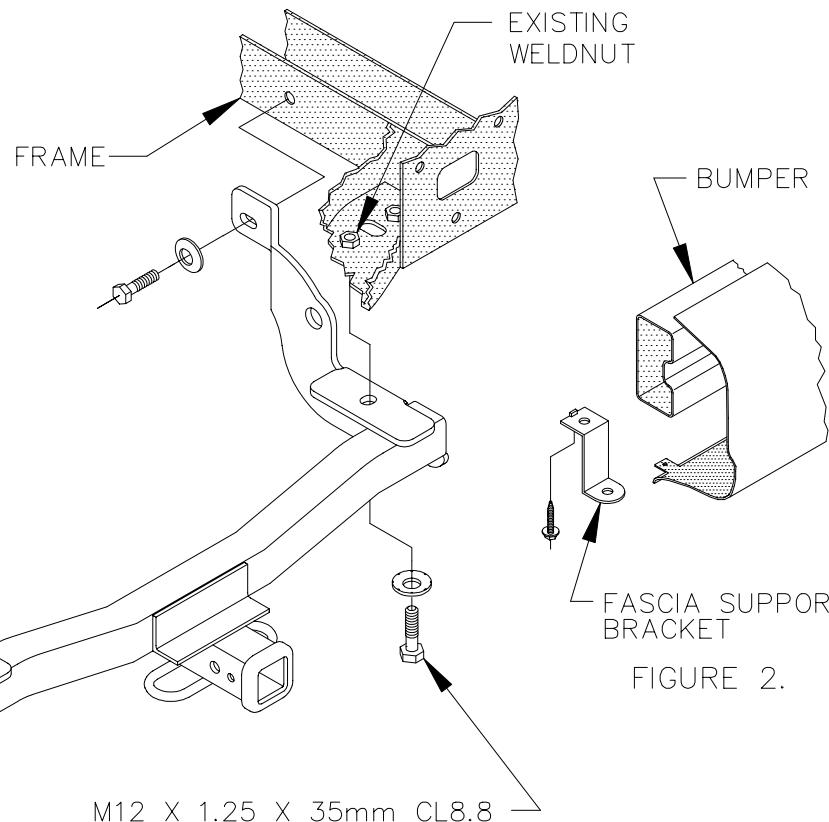

FIGURE 2.
1. REMOVE THE (2) TWO FASCIA SUPPORT BRACKETS AND RETURN TO VEHICLE OWNER. (SEE FIGURE 2.)